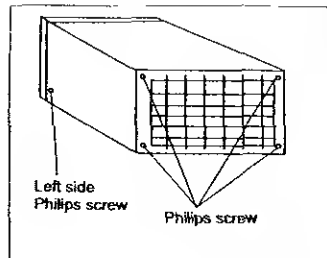

Fig 3
E Remove total of 6 Philips screws securing the slide-out chassis. There are (2) on each side and (4) on the back of the cabinet (Fig 3)